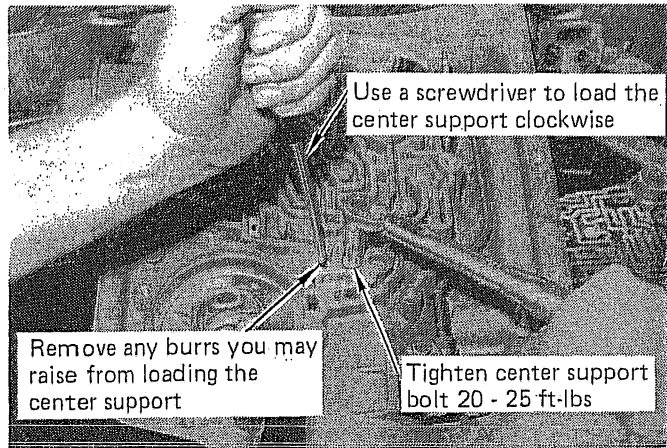

FIGURE 47
**STEP 12.** When end play is properly adjusted, install center support bolt. Insert a 1/4" diameter screwdriver blade into the oil hole next to the center support. (See Fig. 47) Firmly load the screwdriver to the side and tighten the center support bolt to 20 to 25-ft lbs. Remove the screwdriver. Make sure you have not raised any burrs during this step.